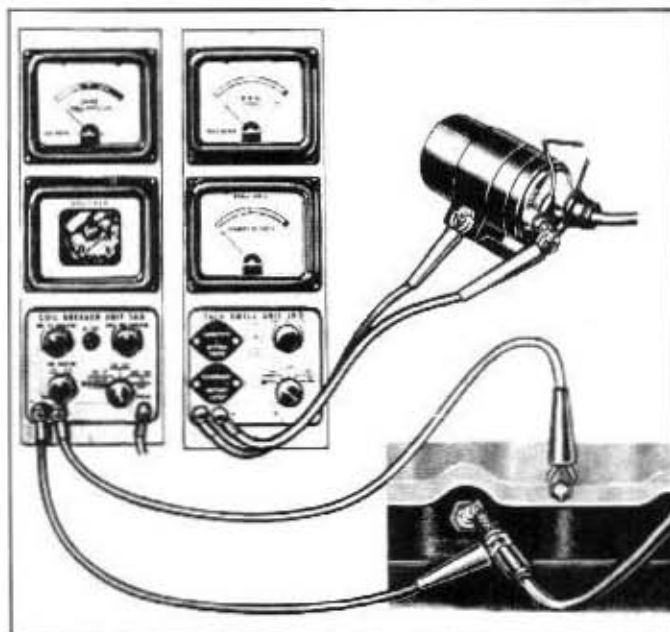

Fig. 10A-46—Secondary Resistance Test—(60C-7705)
5. Connect Tach-Dwell Unit leads, black lead to a good engine ground and red lead to ignition coil DIST. terminal. See figure 10A-46.